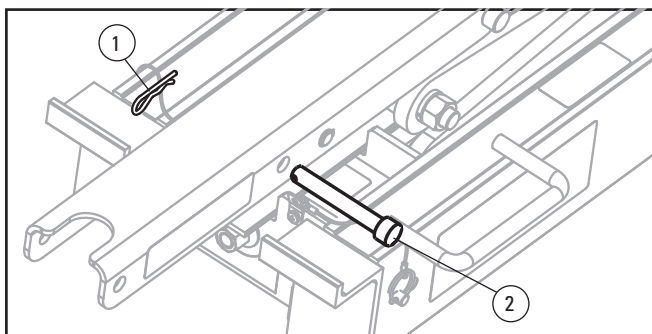
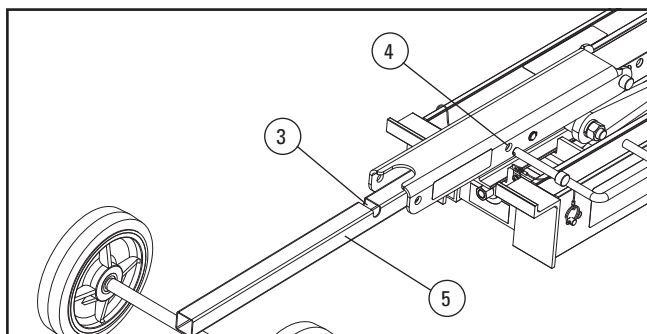

Fig. 19 Trolley assembly 1
Fig. 20 Trolley assembly 2
Attaching Flex-Lifter™ to the Cart *See Figures 19–22.*
- 1 Remove the cotter pin (see Figure 19, pos. 1) and the pin (see Figure 19, Pos. 2) on one of the troughing belts.
- 2 Slide the tube of the wheel frame (see Figure 20, Pos. 5) through the troughing belt, into the tube of the Flex-Lifter™ (see Figure 20). The groove on the tube (Figure 20, pos. 3) must be able to cover the bore hole for the pin (Figure 20, Pos. 4) on the troughing belt.
- 3 Then insert the pin back into the bore hole on the troughing belt (see Figure 20, Pos. 4) and secure it by inserting the cotter pin (see Figure 19, Pos. 1).
- 2 Remove the pin from the bore hole (see Figure 20, Pos. 4).
- 3 Remove the tube of the wheel frame (Figure 20, Pos. 5) from the troughing belt opposite.
- 4 Insert the pin back into the intended hole on the troughing belt, and secure it with the cotter pin (see Figure 19, Pos. 1 and 2).